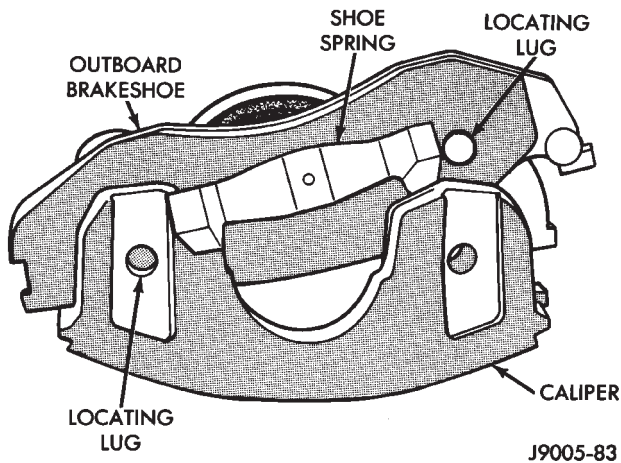

Fig. 31 Outboard Brake Shoe Removal
- (1) Raise and support vehicle.
- (2) Remove wheel and tire assembly.
- (3) Remove caliper.
- (4) Pressing one end of outboard shoe inward to disengage shoe lug. Then rotate shoe upward until retainer spring clears caliper. Press opposite end of shoe inward to disengage shoe lug and rotate shoe up and out of caliper (Fig. 31).